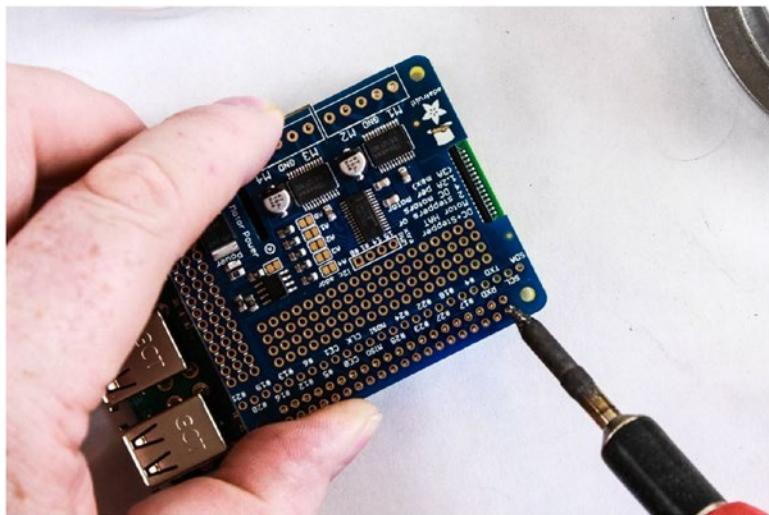

Figure 6-8. Adjusting the placement and angle of the board
4. Once the first pin is soldered, heat it up again and adjust the board so that it sits properly (see Figure 6-8). When the solder for the pin cools, it will hold the board at the right angle while you solder the rest of the pins. If you supported the board with a terminal block or something else so that the board is sitting straight, you may be able to skip this step.